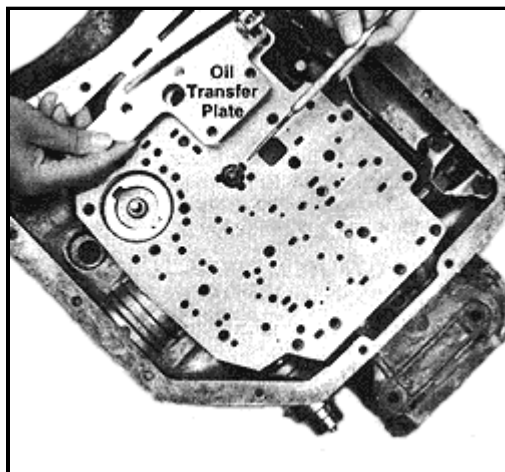

Figure 7
**STEP 15.** Install special oil transfer plate and stock support plate (See Fig. 7) (Note: Slot in transfer plate lines up with two holes in the separator plate and creates a new oil circuit.) Install support plate bolts finger tight. Remove center pan bolt. Make sure plate does not drop far enough to lose check balls.